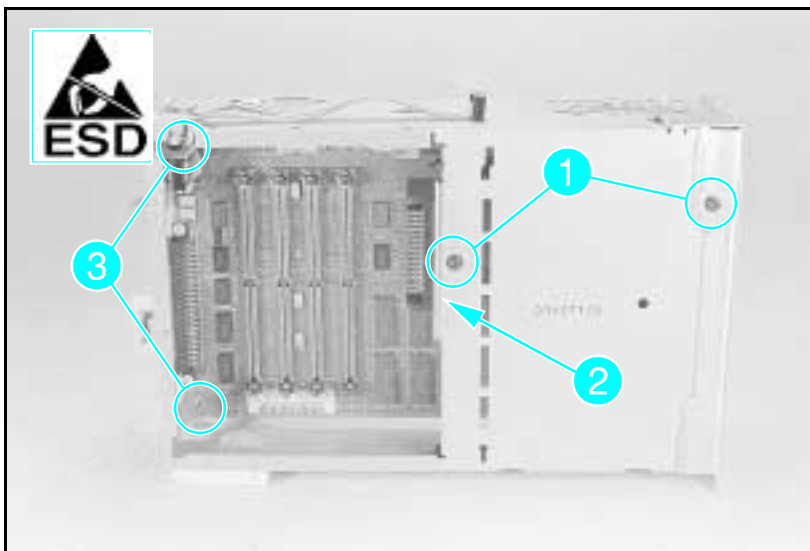

Figure 6-25a Formatter Cover and PCA Mounting Screws (LaserJet 4)
- 2 Remove the (2) black screws from the side of the Formatter Cage (see Figure 6-25a, callout 1).
- 3 Remove the MIO Connector Support Bracket (see Figure 6-25a, callout 2).
- 4 Remove the (2) Formatter PCA mounting screws (see Figure 6-25a callout 3).
- 2 Remove the MIO Connector Support Bracket (see Figure 6-25a, callout 2).